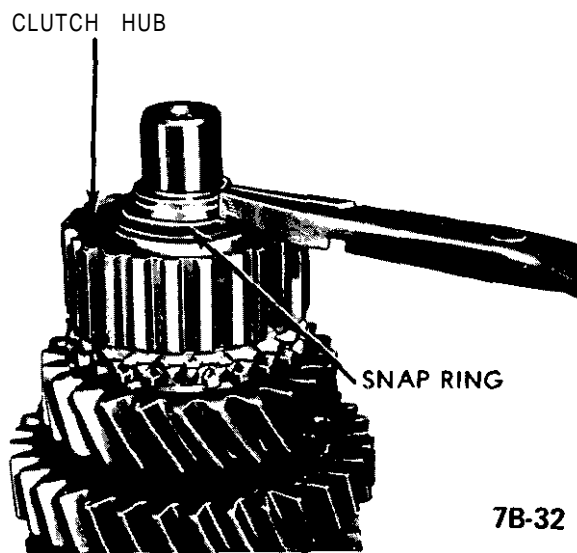

Figure 7B-32 Removing Snap Ring In Front of Clutch Hub
4. Using Tru-arc pliers, remove snap ring behind speedometer drive gear. See Figure 7B-33. Remove speedometer drive gear spring washer and speedometer drive gear spring.